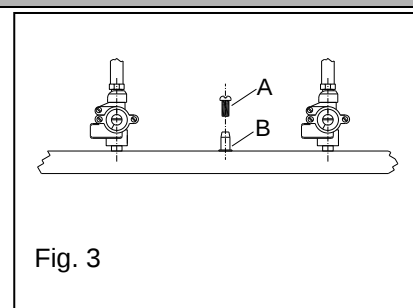

Fig. 3
4.1 Checking the supply pressure (Fig. 3)